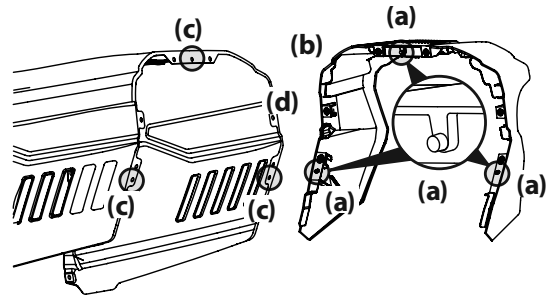

Figure 5
There are three (3) alignment posts (a) on the hood collar (b) that line up with corresponding alignment holes (c) in the hood (d). See Figure 5